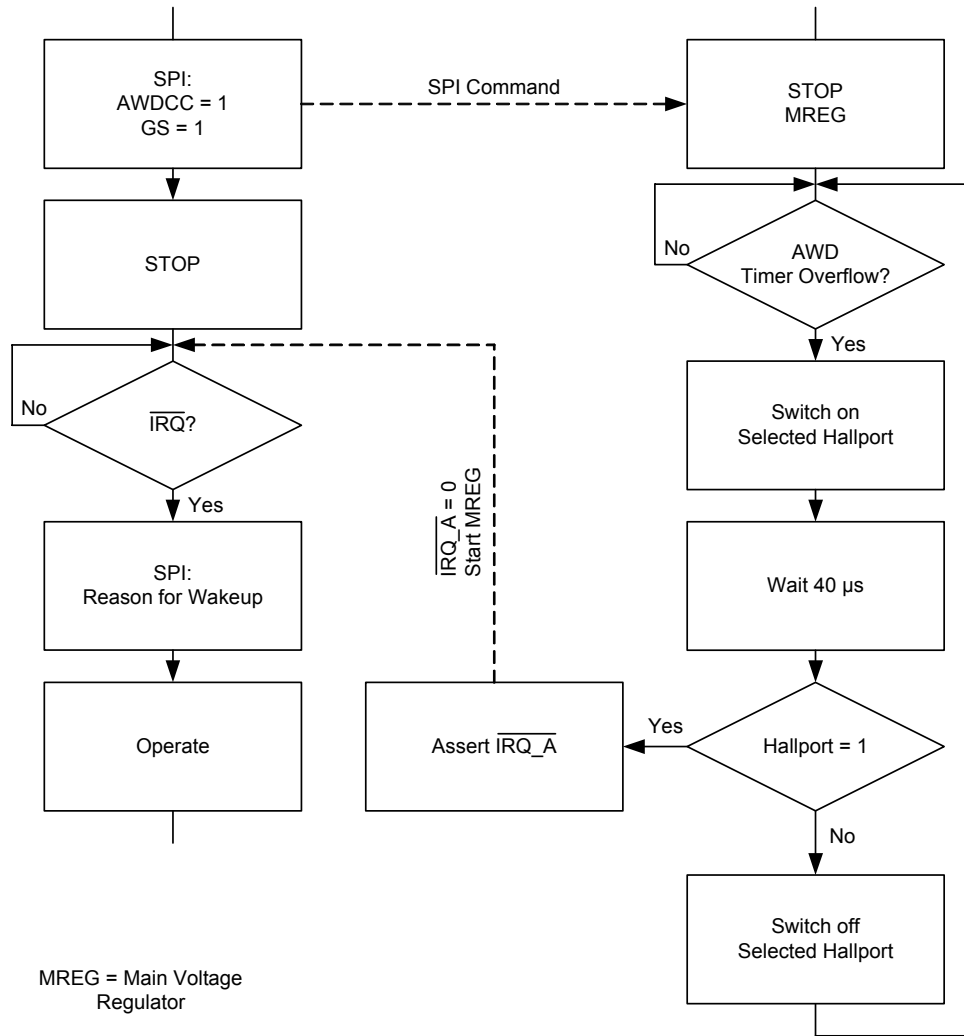

Figure 14. Hall-Effect Sensor Input Terminal Cyclic Check Wake-Up Feature
- The cyclic wake-up of the AWD is enabled ($\text{AWDCC} = 1$) (see Figure 14, page 28).